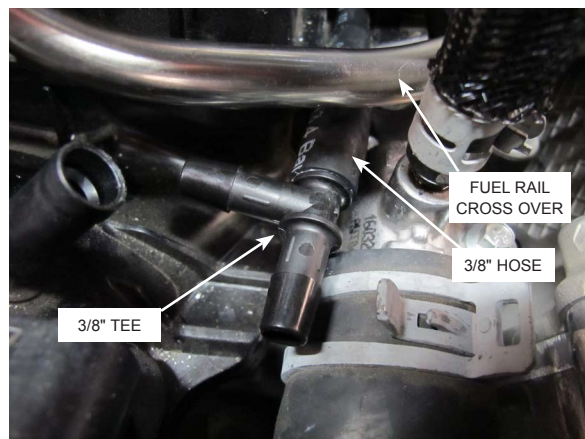

Fig. 8-g: 3/8" Hose & Tee Attached to Hard Plastic Tube (Drivers Side)
- H. Cut a 12" section & 2.5" section of 3/8" hose. Locate the provided 3/8" check valve & assemble it as shown in Fig. 8-e. Note the direction of flow on the check valve. Secure the check valve with 2x 17.0 stepless clamps.